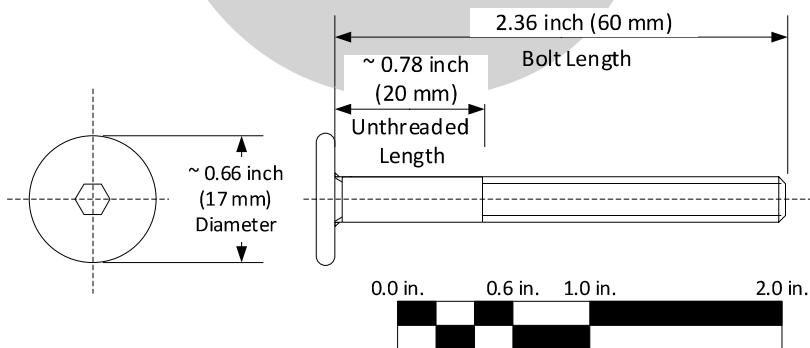

Figure 3 - Connector Bolt,  $\frac{1}{4}$  -20 x 2.36 inches (60 mm) long
- (1) The Mounting Bolt Assembly will consist of:
- (a) Connector Bolt,  $\frac{1}{4}$  -20 x 2.36 inches (60 mm) long, with a 0.66-inch (17 mm) diameter head and 0.78 inch (20 mm) unthreaded section, 1 required. (Figure 3)